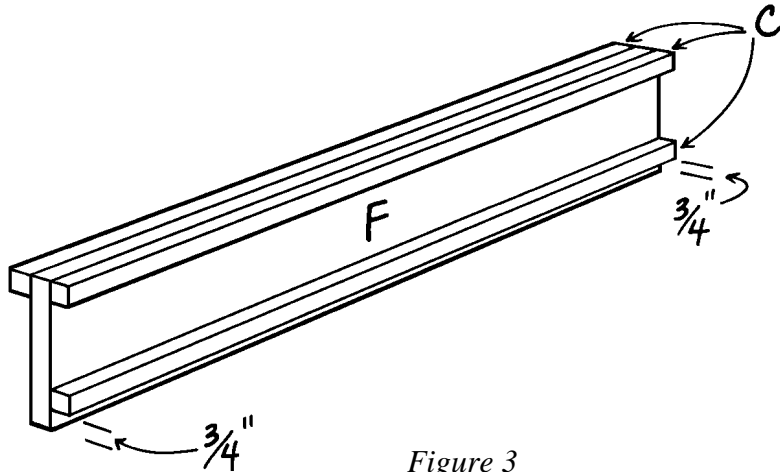

Figure 3
5. Glue an inner vertical support (C) to each side of the inner divider (F), flush with one edge as shown in *Figure 3*. Secure with 3d finishing nails spaced about 6" apart.
6. Glue a third inner vertical support (C) to the inner divider (F), offsetting it  $\frac{3}{4}$ " from the other long edge, as shown in *Figure 3*. Secure the support with 3d finishing nails spaced about 6" apart.